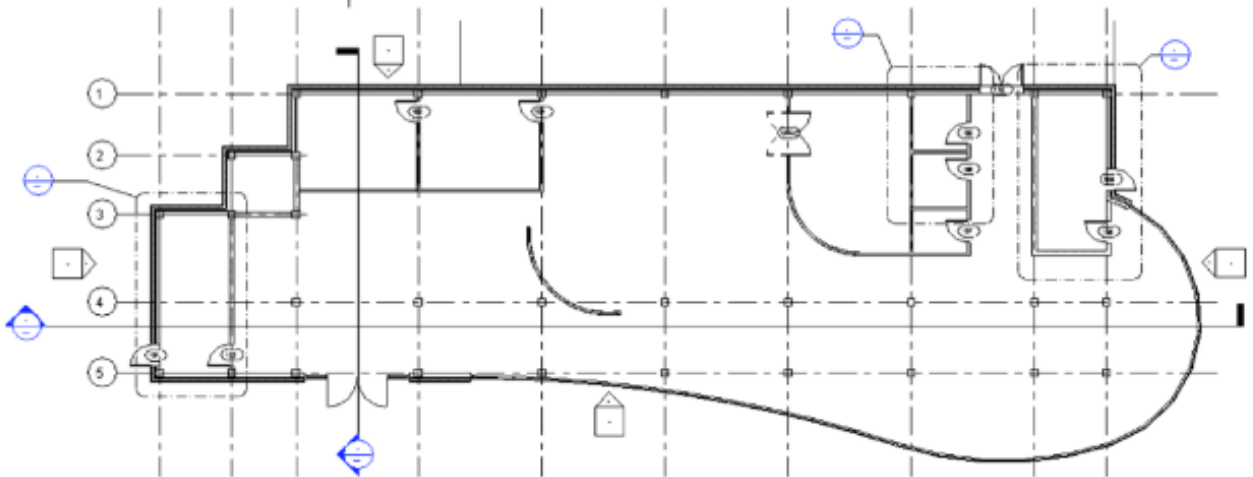

Figure 7–60
11. Draw a horizontal section and a vertical section through the building, as shown in Figure 7–60.